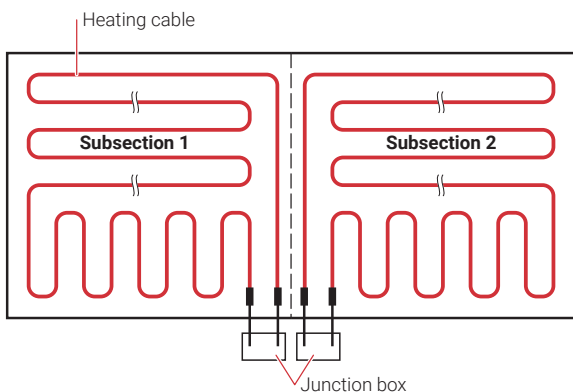
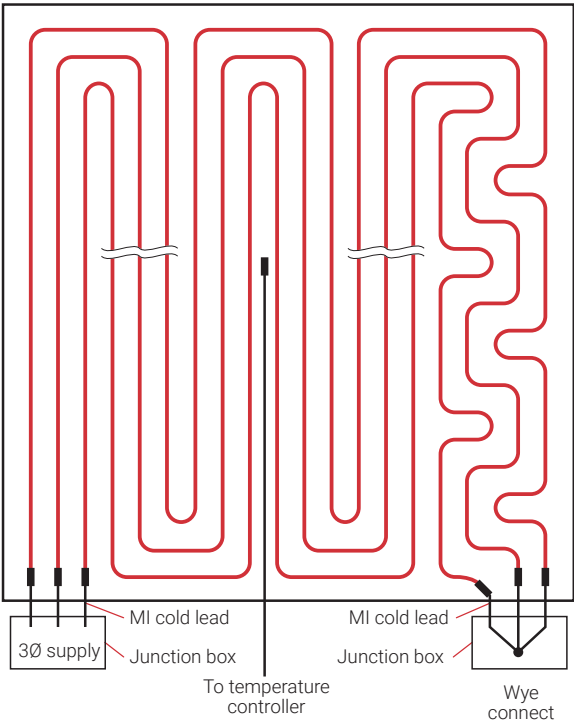

Figure 23: Typical layout for single-phase connected cables
Figure 24: Typical layout for three-phase Wye connected cables
2. Install the junction boxes (see Section 4 for details). For single-phase circuits using Design B cables (see Section 1.9), the cable layout should begin and end at the junction box to allow both cold leads to be connected to the junction box (Figure 23). For three-phase circuits where the heating cables are Wye connected to the power supply, the junction boxes may be located at opposite ends of the freezer as shown in Figure 24. Refer to the design drawings for exact junction box locations.
5. Lay out the heating cable in a serpentine pattern, at the predetermined spacing as specified in the design requirements, to uniformly cover the area to be heated (see Section 2.10). Stay 12 to 24 in (30 to 60 cm) from outer walls. Fasten the heating cables to the mesh, if used, at 30 in (76 cm) intervals using plastic cable ties or equal. Typical cable spacing ranges between 18 to 60 in (46 cm to 152 cm) on centers. Figure 23 and Figure 24 show typical single-phase and three-phase heating cable layouts.
Important: For single-phase circuits, if the heating cable is laid out parallel to one side and the cable length is not an even multiple of the length of that side, it will be necessary to change the direction of the last run of cable (see Figure 23). This is necessary to maintain the proper spacing between cable runs and to allow the second cold lead to return to the junction box.
Important: For three-phase Wye connected circuits, the cable runs are generally interlaced as shown in Figure 24. If the heating cable is laid out parallel to one side and the cable length is not a multiple of the length of that side, it will be necessary to change the direction of the last run of cable in order to maintain the proper spacing between cable runs.